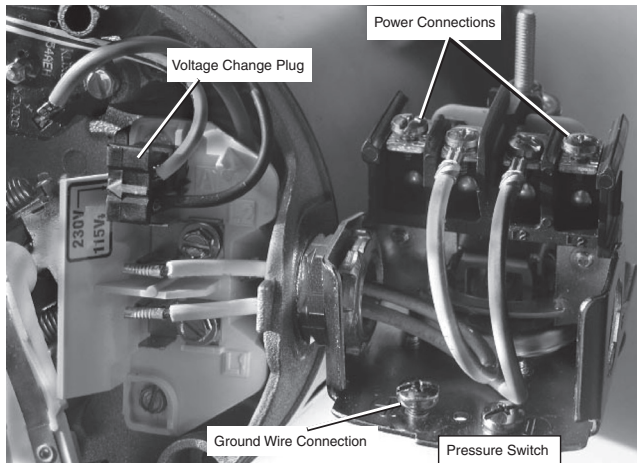

Figure 14 - Voltage set to 230 V, Plug Type
4. Attach the incoming power leads to the two outer screws on the pressure switch as shown in Figure 14.
5. Attach the ground wire to one of the grounding connections, shown in Figure 14.